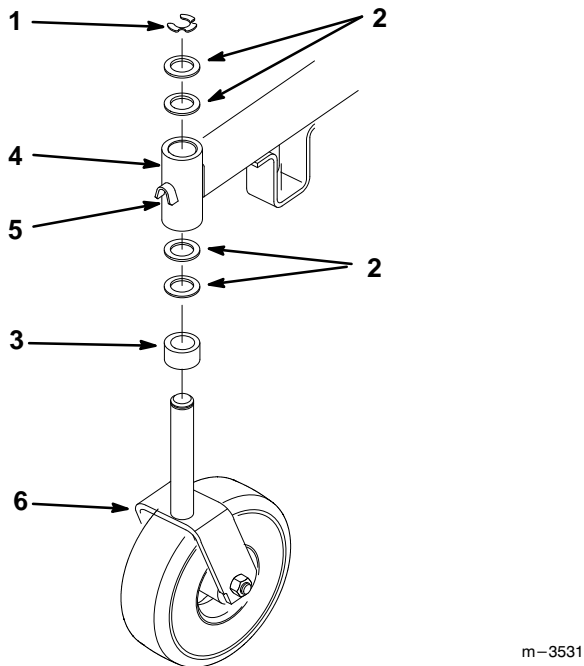

Figure 1
IMPORTANT: Make sure your castor wheels are installed correctly as shown in figure 1.
1. Place spacer and (2) thrust washers on shaft and slide the castor wheel into the mounting tube (Fig. 1).
2. Place (2) thrust washers on top of the fork and secure with retaining ring (Fig. 1).